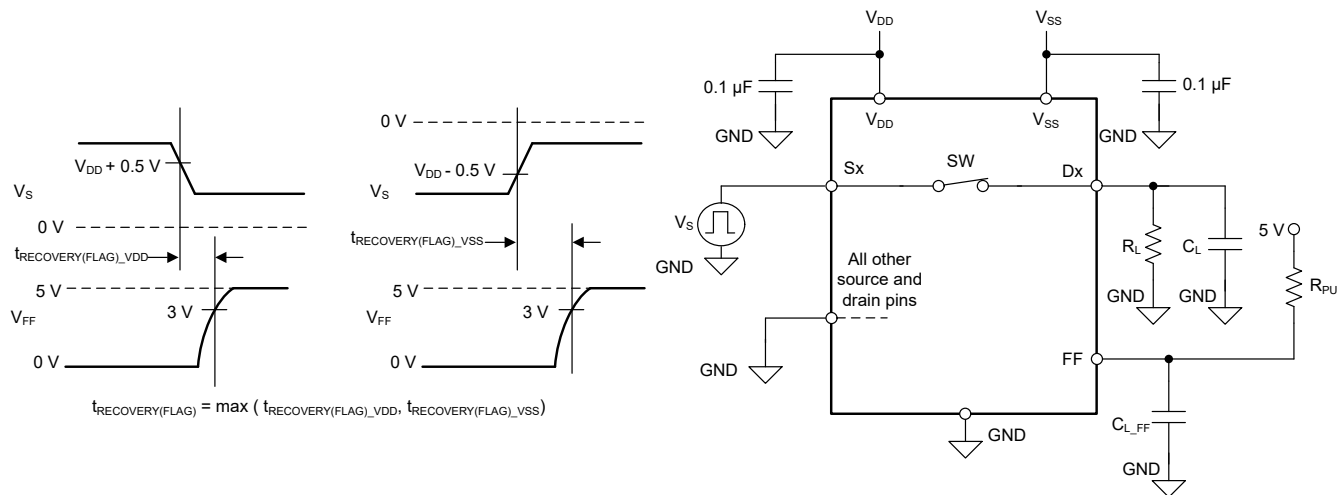

图 8-10. Fault Flag Recovery Time Measurement Setup
Fault flag recovery time ($t_{\text{RECOVERY(FLAG)}}$) measures the delay between the source voltage falling from overvoltage condition to below fault supply voltage (V_{DD} or V_{SS}) plus 0.5 V and the general fault flag (FF) pin to rise above 3 V with 5 V external pull-up. 图 8-10 shows the setup used to measure $t_{\text{RECOVERY(FLAG)}}$.